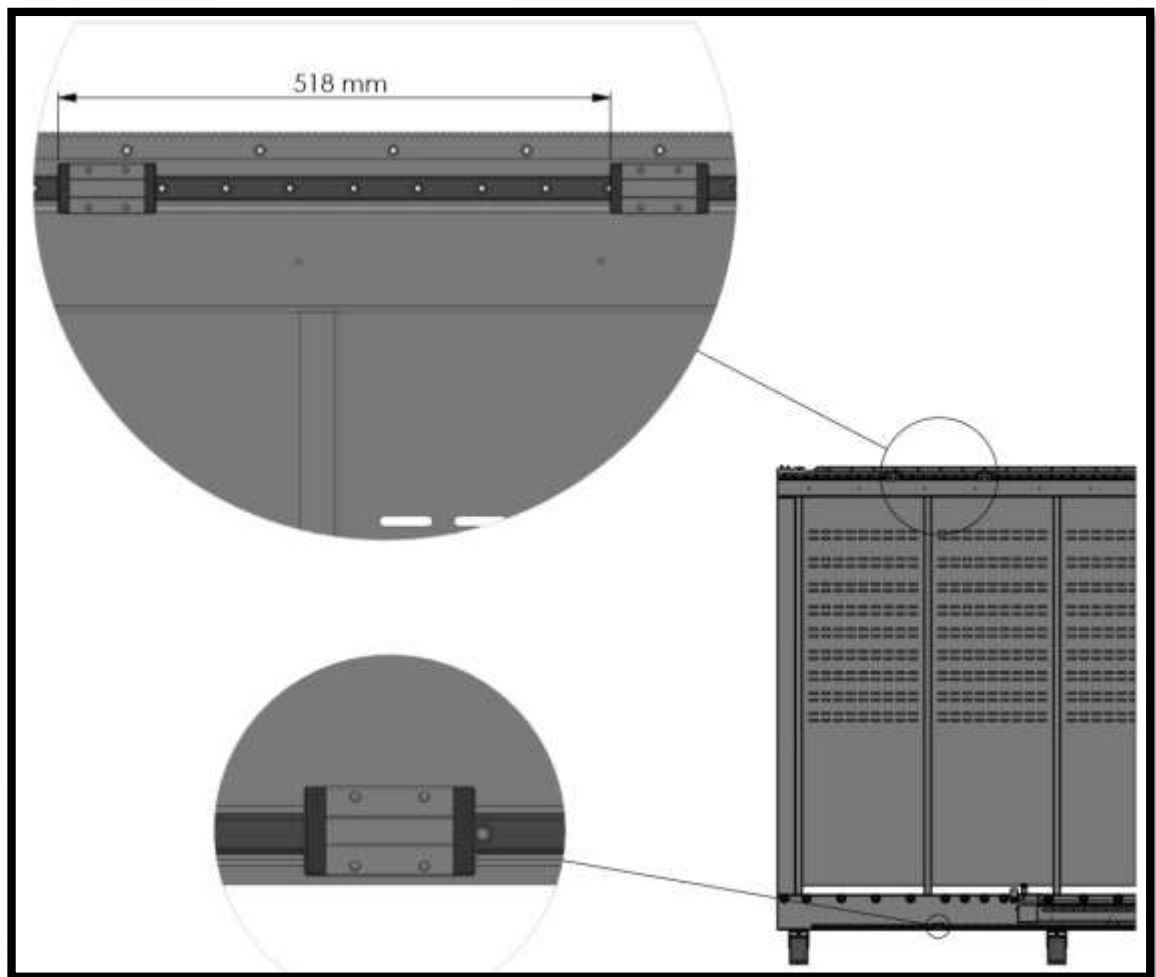

Figure 2.5 – Positioning of Carriage on the Chassis
- 1- Make sure that the chassis is completely secured to the ground. On the chassis upper rail and on the lower rail, 1 linear car should be positioned on the rail which corresponds to the connection points in the cutting block (Figure 2.5). NOTE: You can remove the lubrication records on cars to avoid damage during installation, they can be reinstalled after the installation is complete.